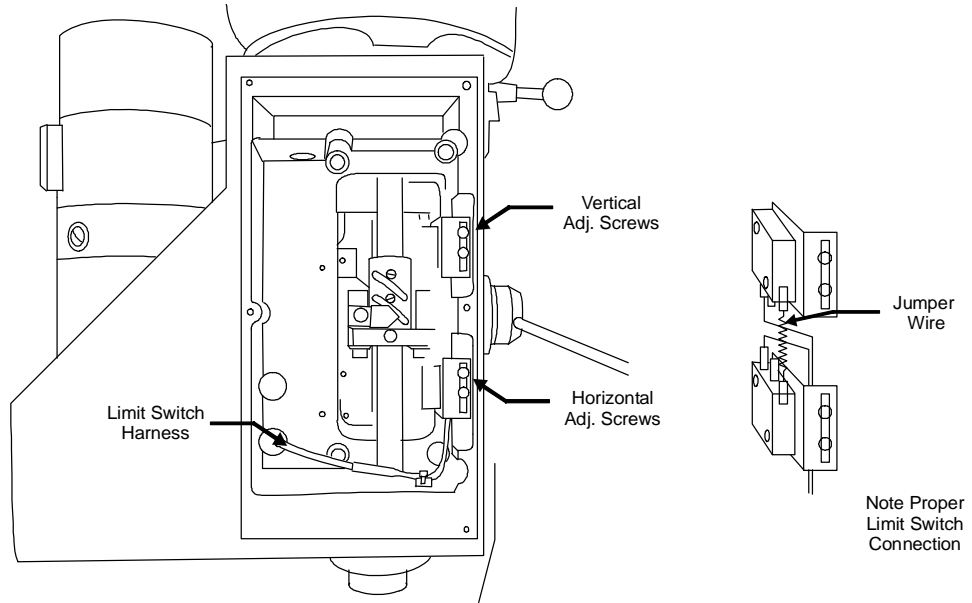

Figure 3-25, Z Axis Front View of Completed Assembly
2. Use the manual quill handle to position the Z axis 0.125" from the dead stop in a negative Z direction. Secure the limit switch at this position so that the switch trips 0.125" from the dead stop. Move the limit switch on the bracket to achieve the proper distance. Refer to **Figure 3-25, Z Axis Front View of Completed Assembly**.